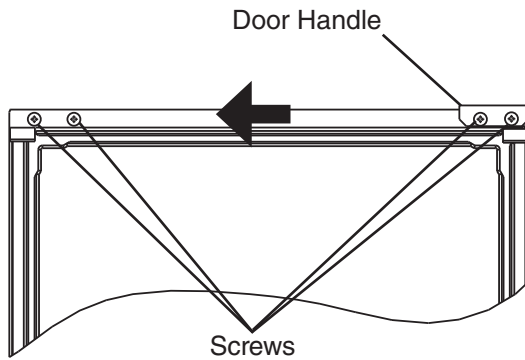

**Fig. 4**
- 4) Remove hinge (B) from the right side of the appliance and the 2 filler screws from the left side. Attach the 2 filler screws to the right side and attach hinge (B) to the left side. See Fig. 4.